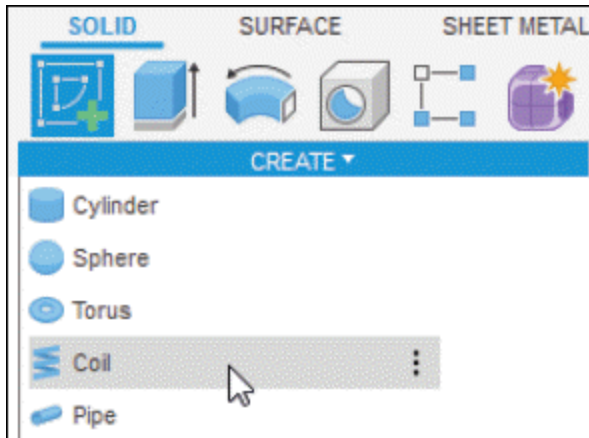

Figure-74. Coil tool
- Click on the **Coil** tool of **CREATE** drop-down from **Toolbar**; refer to Figure-74. You will be asked to select a